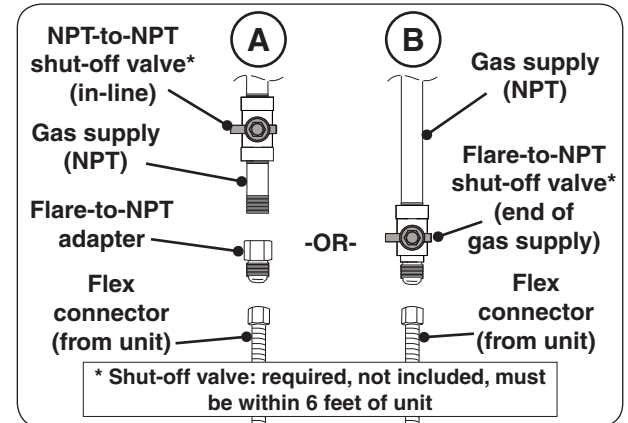

Fig. 17-3 Connecting to a gas line
- Install the supplied flare-to-NPT adapter to the gas supply (NPT) using a pipe joint compound resistant to all gasses (see Fig. 17-3, A). Tighten securely.
- Connect the flex connector to the adapter (see Fig. 17-3, A). Tighten securely.
- Connect the flex connector to the shut-off valve (flare) (see Fig. 17-3, B). Tighten securely.